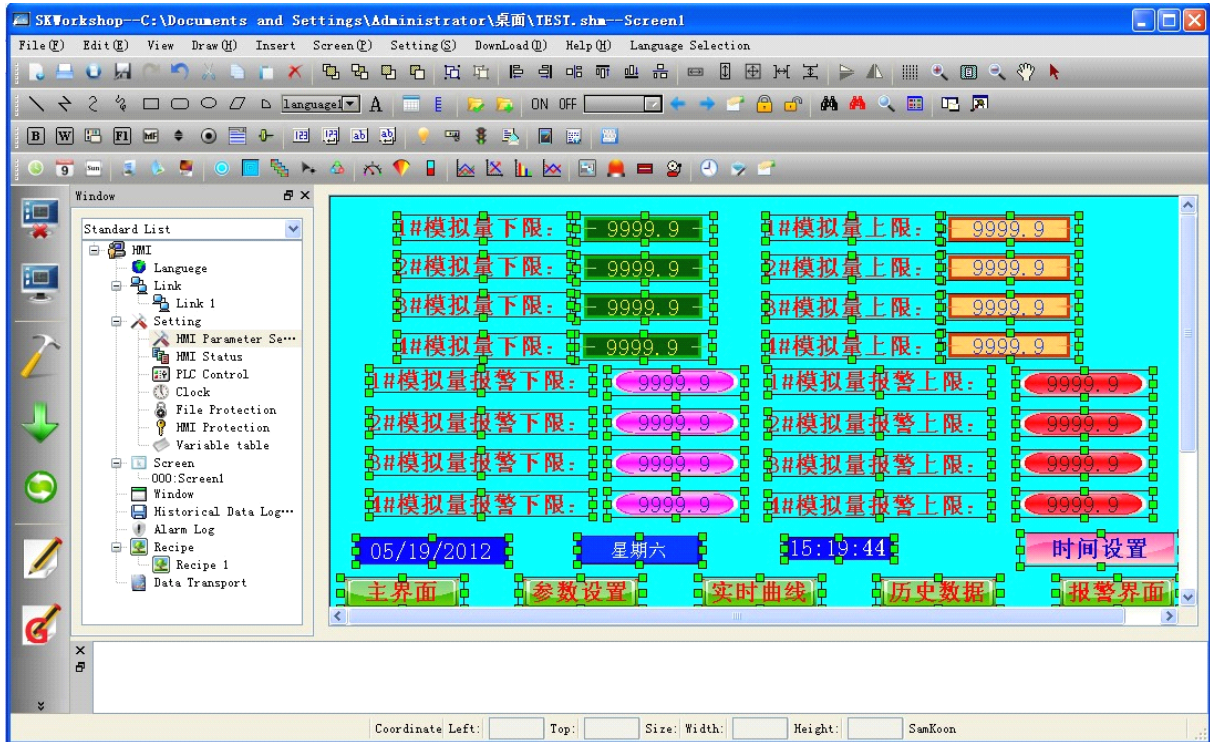

Figure 6-7 Edited project
- ✓ The creation method of other controls is same to previous introduction. Therefore, detailed description is not given again. After setting attribute of all controls, click “Save” to save the project. Then, select “Off-line Simulation” in menu "Download" of menu bar, as shown in figure 6-7.